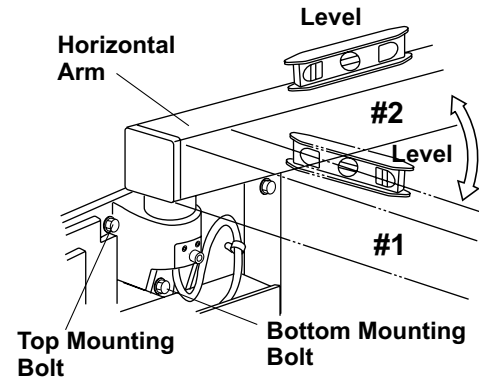

Fig.4-1 Horizontal Arm Adjustment
1. Incorrect leveling of the wall plate and wall bracket can cause arm drift. First, check leveling with horizontal arm in position #1. (Fig.4-1) If not correct, bracket must be adjusted by placing shims behind the wall plate.
2. Check leveling in position #2. if not correct, adjust Horizontal Arm as follows : (Fig.4-1)